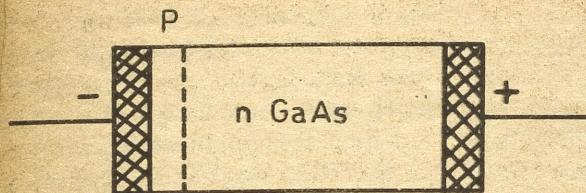
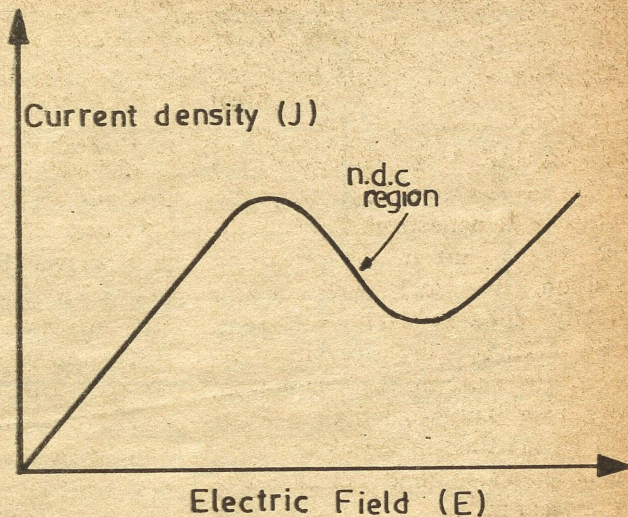
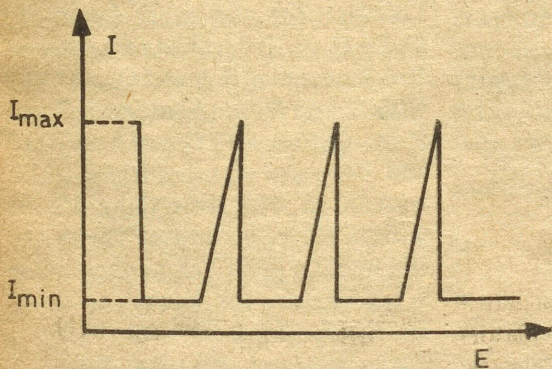

Fig. 1
Fig. 2
Fig. 3
(n.d.c) region (Fig.2) over which the current density decreases rather than increases with increasing electric field values. It was proposed that any negative conductance device is inherently unstable, so that the electrical inhomogeneity, once produced, grows in time. Consider, for example, a GaAs sample with Ohmic contact. Now, suppose that because of non-uniformity in carrier concentration or because of random fluctuations in inherent noise a space charge layer is formed, say at point P (Fig.1) inside the sample. This space-charge will grow in time and a high field domain, surrounded by low field regions, is formed at P (i.e., at the cathode side) provided the product of carrier concentration (n) and sample length (L) exceeds  $10^{12}$  cm-2. The domain consists of mobile charges and thus drifts towards the anode where it gets extinguished and a new domain is formed. This formation and extinction of domain continues giving rise to an oscillatory variation of sample current as shown in Fig.3. The frequency of oscillation (f) is related to the sample length L in the manner  $f=10^7/L$ . The origin of negative differential conductance (n.d.c.) region in J-E characteristic may be attributed to two different causes discussed below.